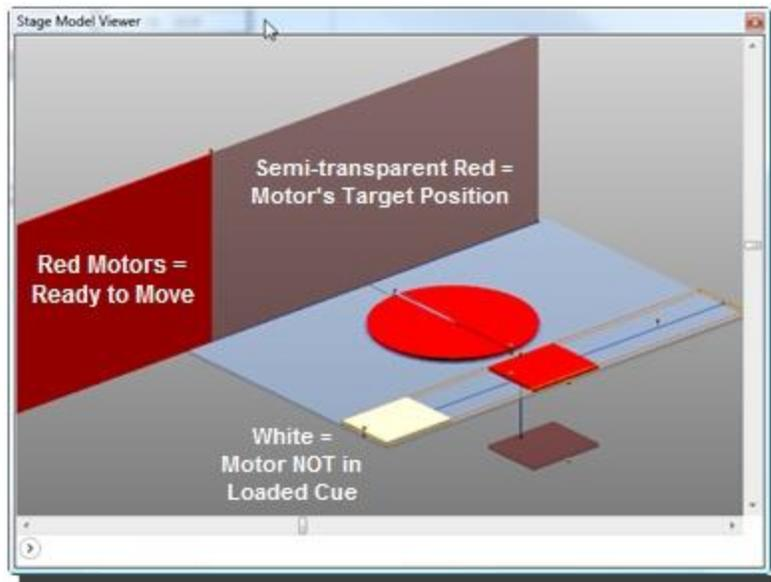

Figure 326
- The motor(s) that will move in the loaded Cue change to red and their target position(s) are shown in semi-transparent red inside the **Stage Model Viewer** (Figure 326). *Note that the Turntable's target position in the example below is the thin, semi-transparent red line that sits down stage, nearest the lift.*